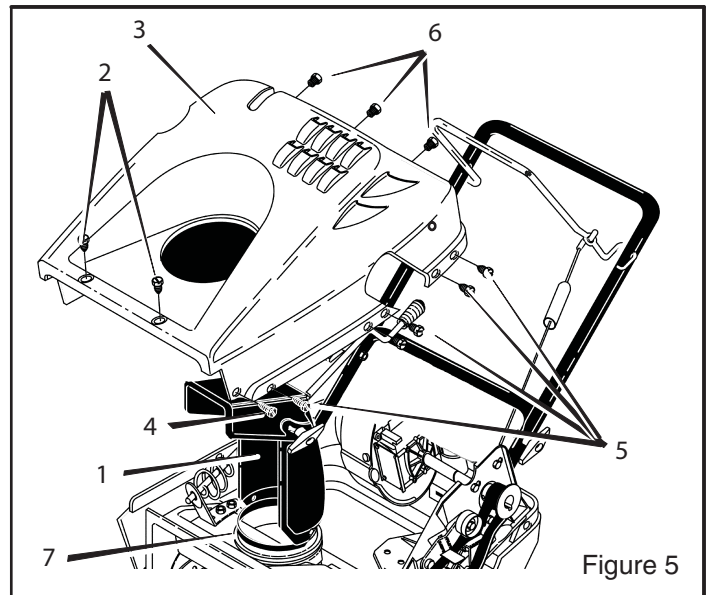

Figure 5
1. **(Figure 5)** Remove the discharge chute (1).
3. Remove the two nuts and bolts (2) from the front of the top cover (3).
4. Remove the two bolts (4) from the left and right of the top cover (3).
5. Remove the eight screws (5) on the left and right side of the top cover.
6. Remove the three screws (6) from the top portion of the control panel.
7. Carefully pull the rear of the top cover (4) up and over the gas tank.
8. To install the top cover (4), reverse the above steps.
(Figure 5) Lubricate the chute control flange (7). Apply a clinging type of grease such as Lubriplate.